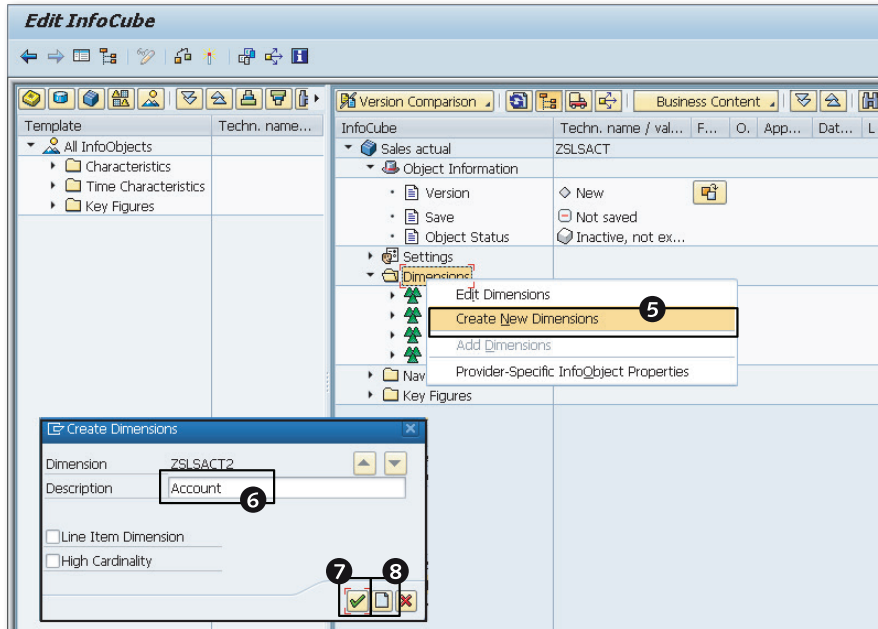

Figure 3.16 Create InfoCube—Part C
5. The EDIT INFOCUBE window appears (Figure 3.16). Notice that the system automatically creates the data package, time, and unit dimensions.
6. Create a new dimension by right-clicking on DIMENSIONS and selecting CREATE NEW DIMENSIONS (Figure 3.16, 5). The technical ID of the dimension is automatically assigned and cannot be modified, but the description of the dimension *can* be changed.
7. In the CREATE DIMENSIONS window, enter a description for the dimension (“Account”) (see Figure 3.16, 6).
8. Click on the CREATE button (Figure 3.16, 7). This creates the dimension and then opens the CREATE DIMENSIONS window again.
11. Click on ENTER when you're finished (Figure 3.16, 9).